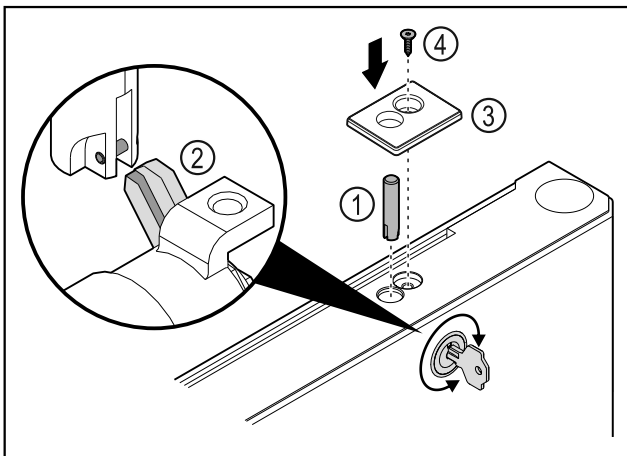

Fig. 45
- ▶ Put in the lock bolt Fig. 45 (1).
- ▶ Turn the lock slightly so that the lock bolt Fig. 45 (2) engages in the slot of the lock.
- ▶ Put in the cover Fig. 45 (3).
- ▶ Insert the screw Fig. 45 (4).